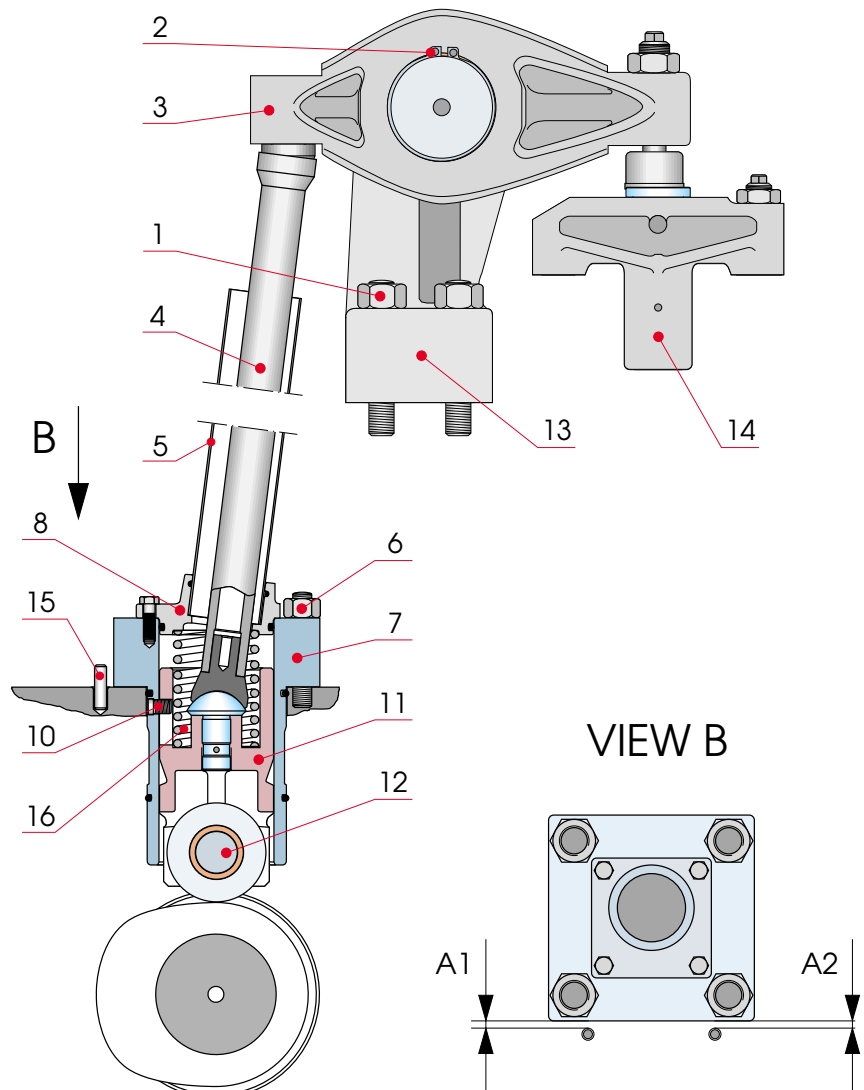

Fig 14-1
- 4 Change the O-rings of the cover (8)** if they are damaged or hard.
- 2 Insert the valve tappet (11)** into the guide block (7) and apply the guiding pin (10).
- 3 Mount the cover (8).**
- 4 Mount the guide block** to the engine block and tighten the nuts (6).
- 5 Check the parallelism** of the roller axis to the camshaft by measuring the distance to the cylindrical pins on both sides of the guide blocks with a feeler gauge, i.e. measures $A_1 = A_2$ according to Fig 14-1. Tighten the nuts (6) to the right torque, acc. to section 07.1.
- 6 Grease the O-rings**, insert the push rods (4) and protecting sleeves (5) into the guide block.
- 8 Lubricate the rocker arm bearing bushes** and mount the rocker arms (3) on the bracket.
- 9 Apply the retainer rings** (2) by using pliers A40 DIN 5254 and check the axial bearing clearance and free rotation of rocker arms.
- 10 Mount the rocker arm bracket** on the cylinder head and tighten the nuts (1) to the torque, see section 07.1.